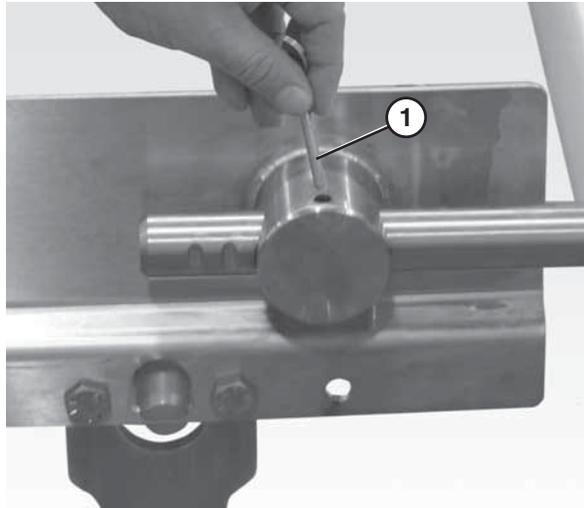

Figure 49
1. Remove the pull pins (Figure 49, item 1) on the tension end of the conveyor to release tension on the belt.